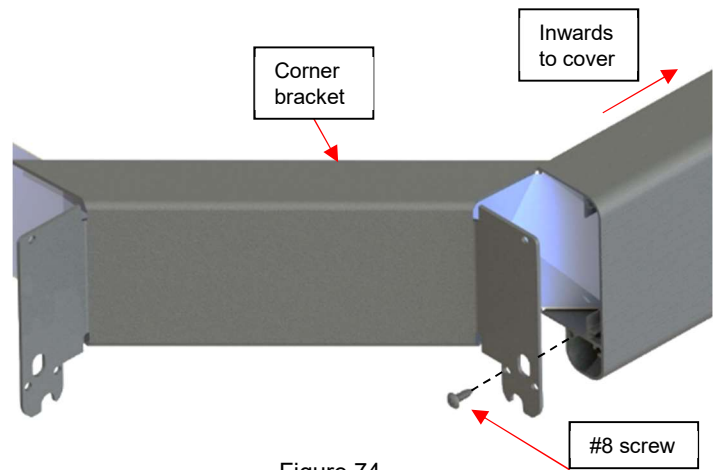

Figure 74
29) Insert the corner bracket on the tapered part of one end panel. Use the provided Robertson sheet metal #8 x 1/2" screws on the inside hole. **The two remaining holes will be used later** (Figure 74).